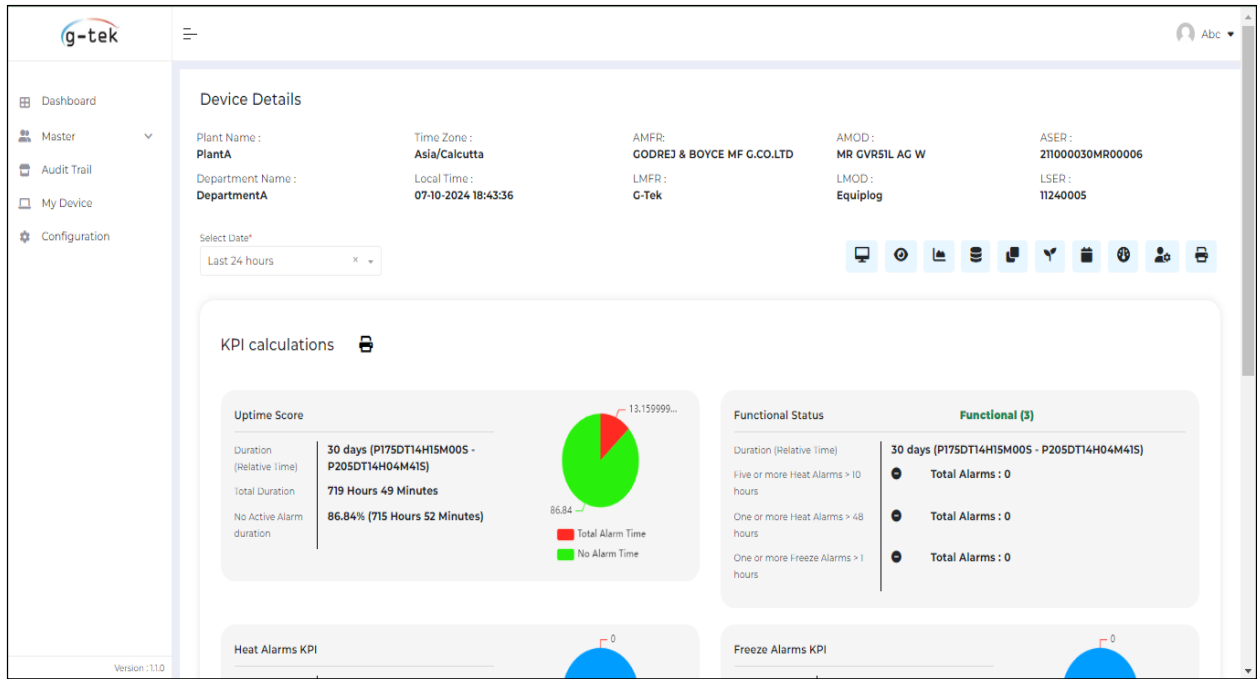

Figure 34 Gtek Cloud KPI Calculation view Dashboard for selected data logger
- Click on  icon to view KPI dashboard for the selected device in the cloud application as shown in figure 34.